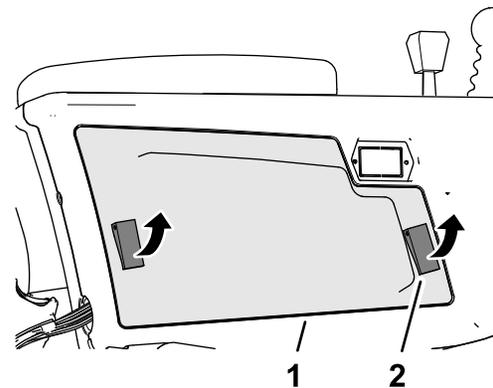

Figure 97
- Open the 2 latches that secure control-arm cove to the control arm, and remove the cover (Figure 97).